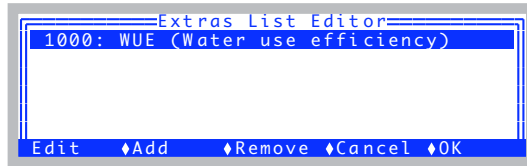

Figure 3-124. Our extra added to the list.
Press **f5 (OK)** to return to the List Editor (Figure 3-124).